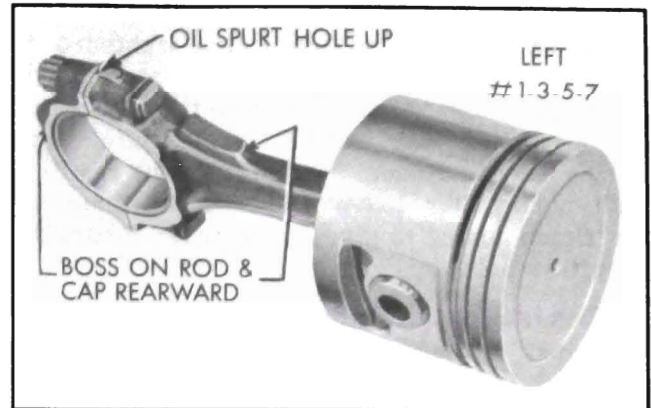

Figure 2-49—Left Bank Piston and Rod Assembly
2. If the piston and rod assembly is to be installed in the left bank the assembly must be made as shown in Figure 2-49.
rod cap will be on the same side as the conical boss on the connecting rod web, and these marks, (rib and boss) will be toward the other connecting rod on the same crankpin. See Figures 2-49 and 2-50.